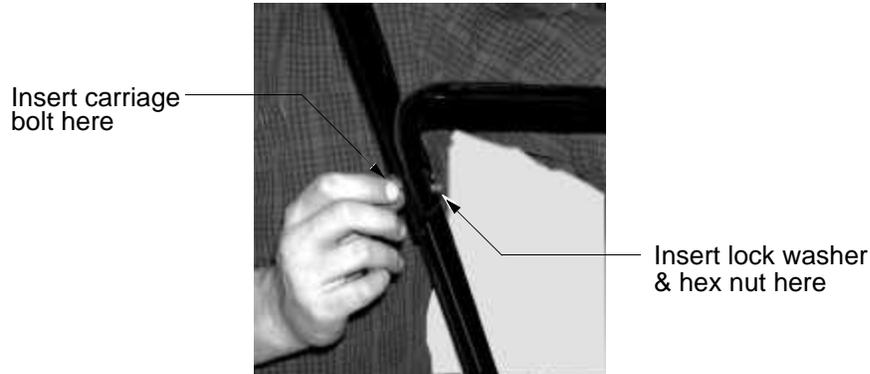

FIGURE 4
- Insert carriage bolt through the upper handle as shown in Figure 4 and secure with a hex nut and lock washer.